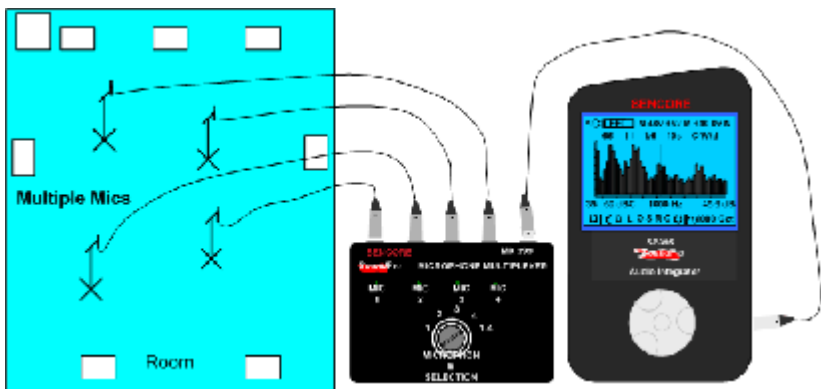

Figure 6. Select the multiplexing position of the Microphone Selector Switch “1-4” to measure a spatial average response using the SP395.
To perform a spatially averaged RTA measurement, connect the SP395, MX399 and microphones as shown in Figure 6. Place the microphones in the room as described in the Testing Setup Section of this manual. Set the MX399 Microphone Selection Switch to the “1-4” position. This position cycles through the microphone inputs, switching the
1. Set up as shown in Figure 6.